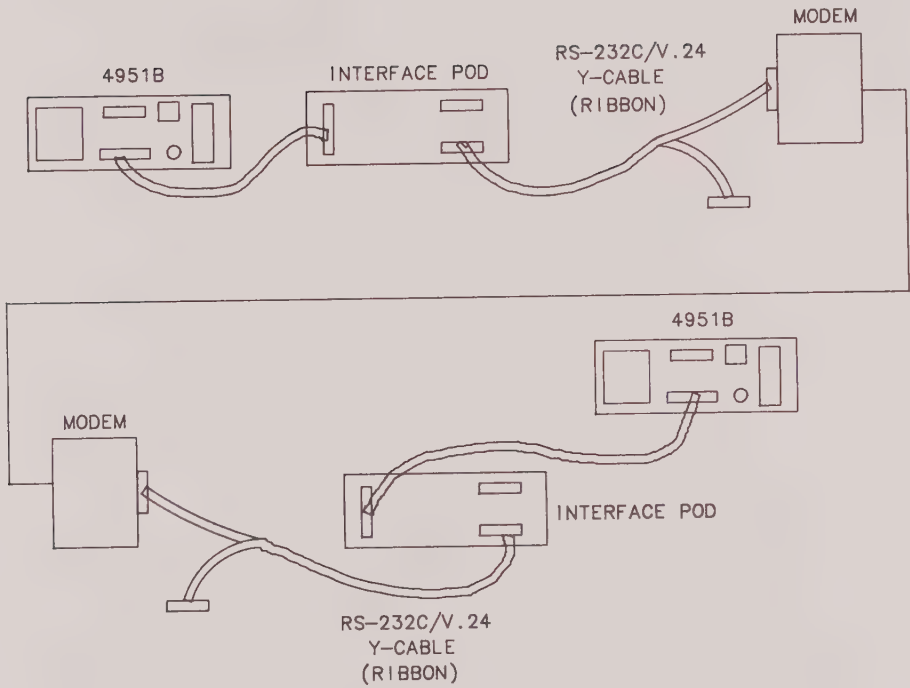

Figure 2-3. End-to-End BERT Hookup
- a. End-to-End. Substitute an HP 4951B for the DTE at both ends of the line. (Figure 2-3).